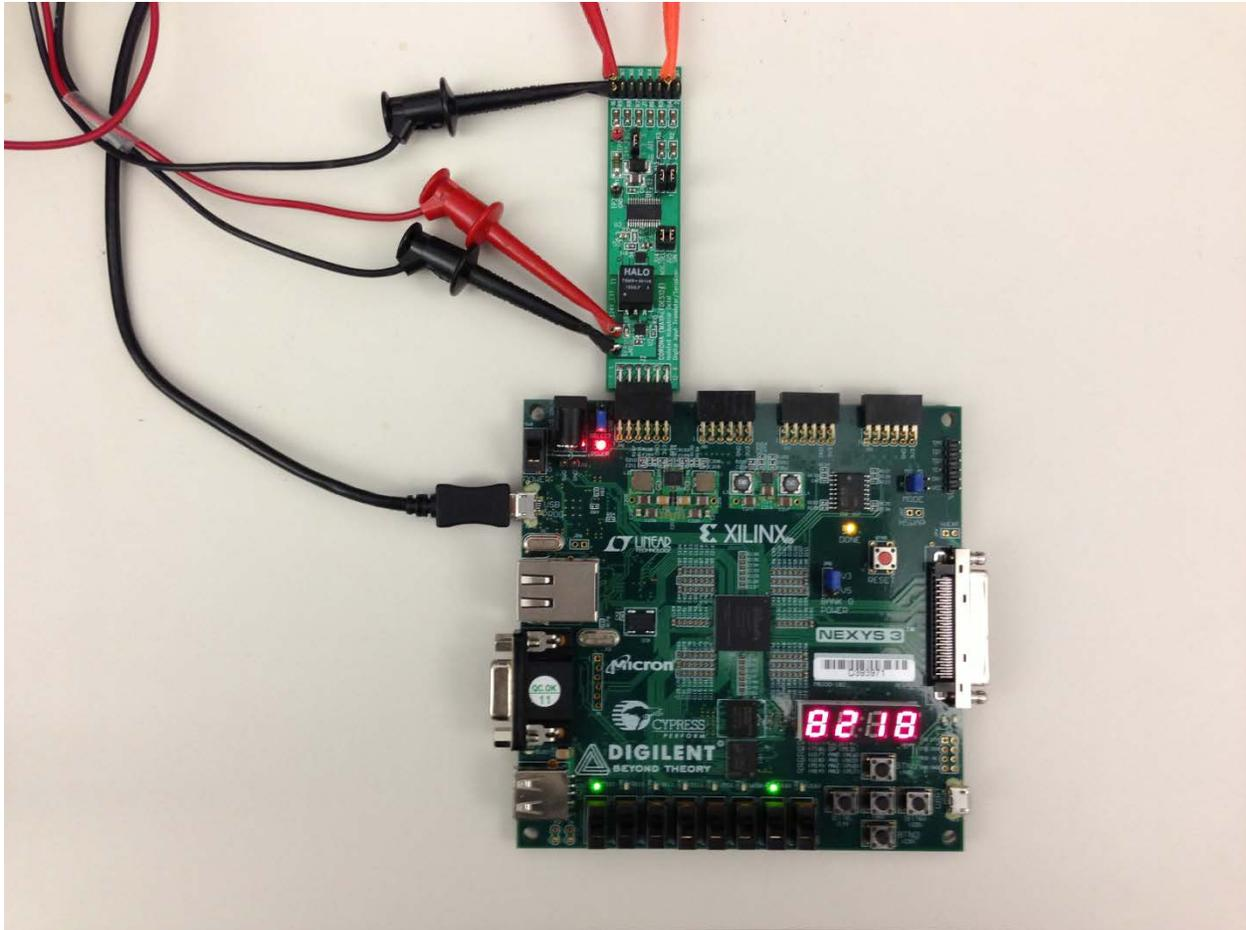
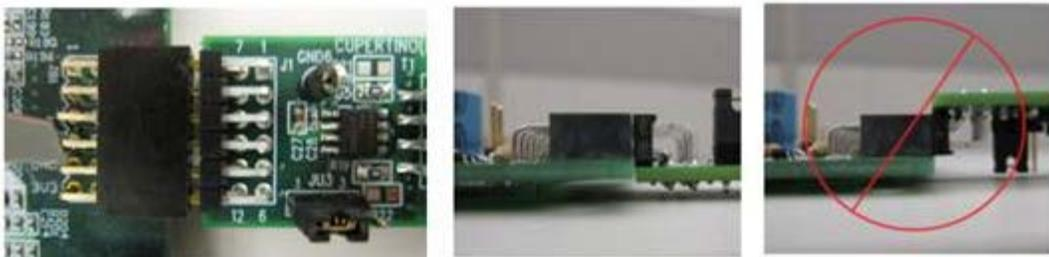

Figure 1. Corona Board Connected to Nexys 3 Development Kit
Figure 2. Pmod™ Connector Alignment
- 1) Connect the Corona board to the JA1 port of a Nexys 3 development kit as shown in Figure 1. Ensure the connector is aligned as shown in Figure 2.
1. Connect the Corona board to the JA1 port of a Nexys 3 development kit as shown in Figure 1.